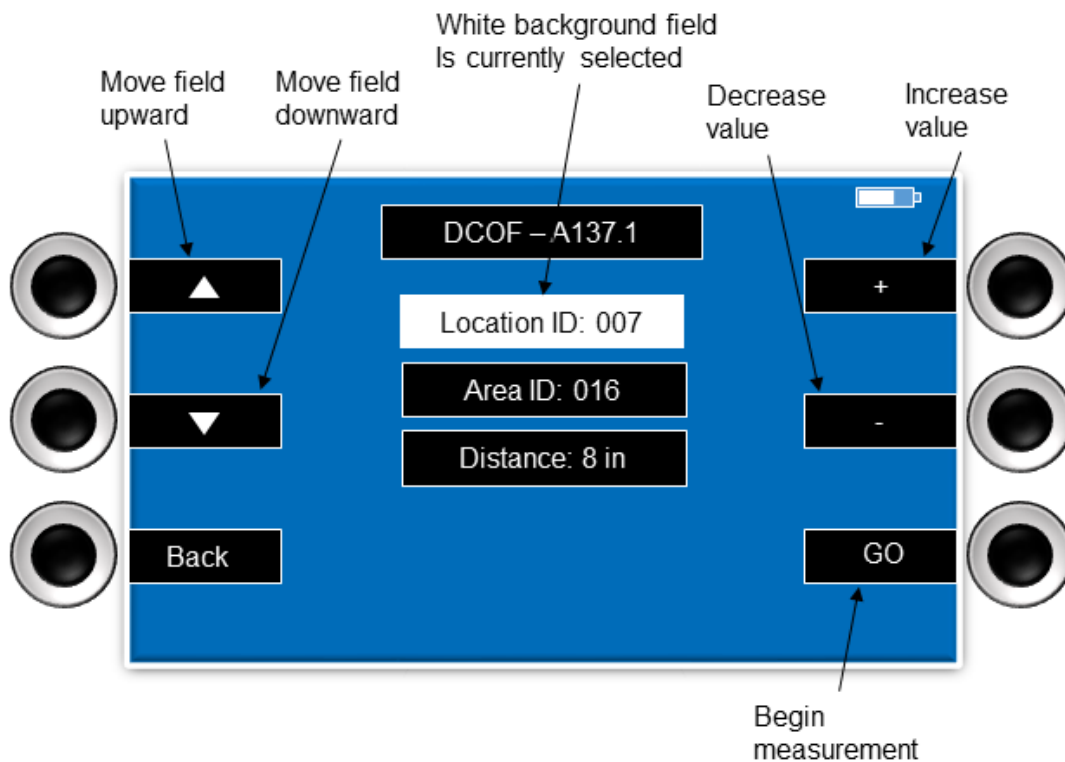

Figure 4
7. Press the “GO” switch to begin testing (Fig 4). The unit will emit a beep alert, lower the sensor, and then move forward. **CAUTION:** To protect the internal mechanism, do not lift or move the instrument from the test surface until the beep alert stops!